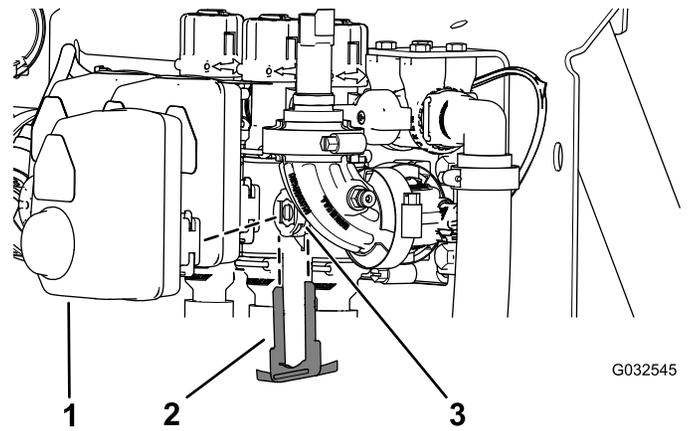

Figure 117
2. Remove the retainer that secures the actuator to the manifold valve for the section valve or agitation valve (Figure 117).